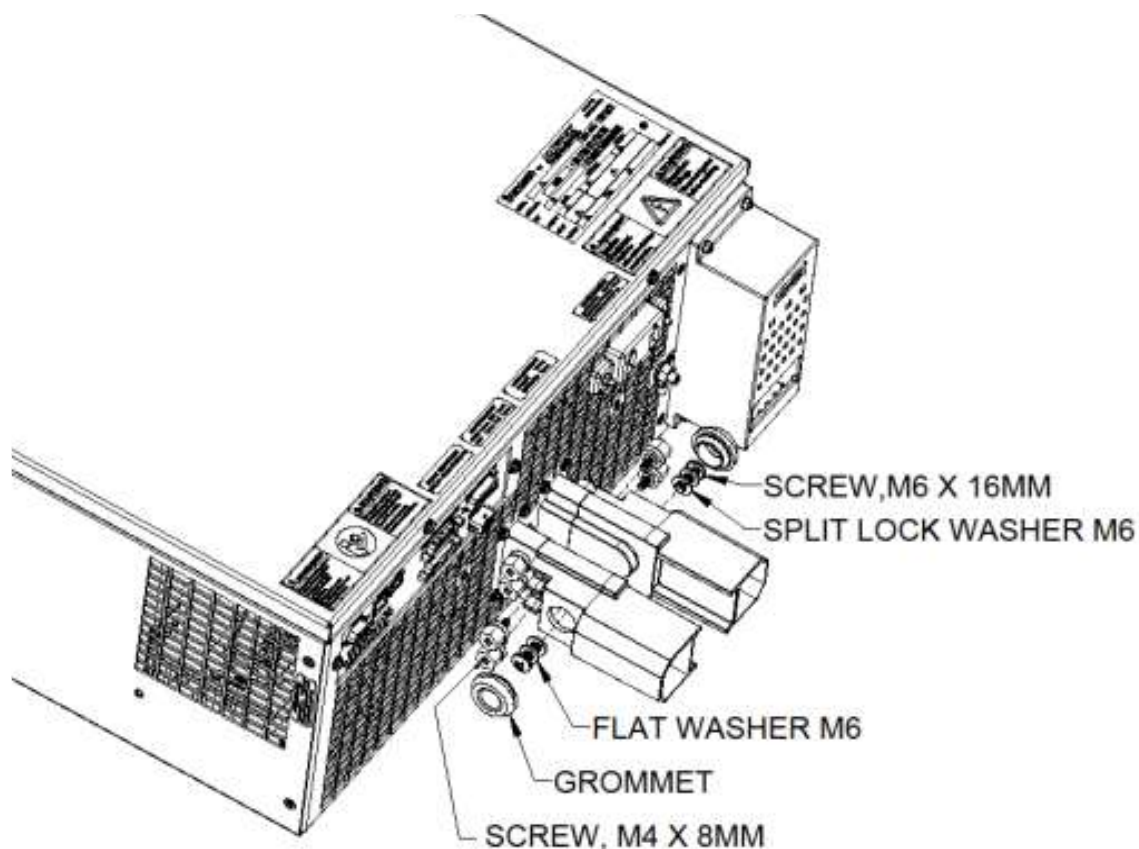

*Figure 3-12. DC output Connection*
- Install the safety cover (P/N: 9580289-01R) on the positive bus bar and the safety cover (P/N: 9580289-02R) on the negative bus bar, securing each with an M4 × 8 mm screw. Refer to Figure 3-12.
- Once the covers are properly installed, connect the positive and negative wires to their respective terminals on the bus bars using M6 × 16 mm screws. Refer to Figure 3-12.
- Install grommets (P/N: 109-505-10) on both the positive and negative sides for safety. Refer to Figure 3-12.